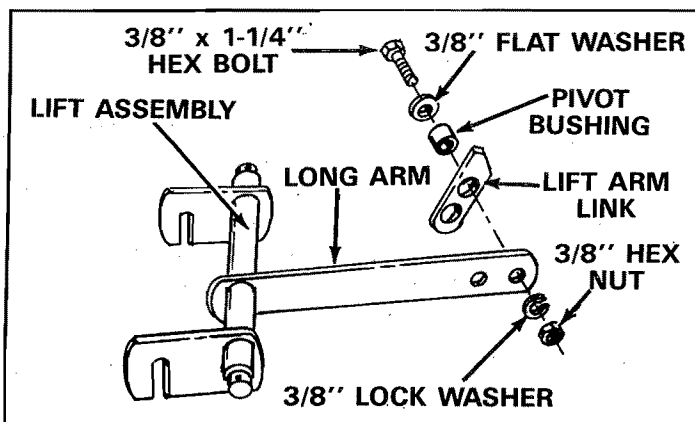

FIGURE 12
8. Pre-assemble lift arm link to inside of long arm on lift assembly. As shown in figure 12.
9. Assemble one 3/8" x 1-1/4" hex bolt through 3/8" flat washer, through pivot bushing, through large hole in lift arm link near angle end and through hole in long arm nearest the end. Secure with one 3/8" lock washer and one 3/8" hex nut. See figure 12. **NOTE: Lift arm link must pivot freely.**
Lift arm link must be positioned as shown in figures 12 and 13.